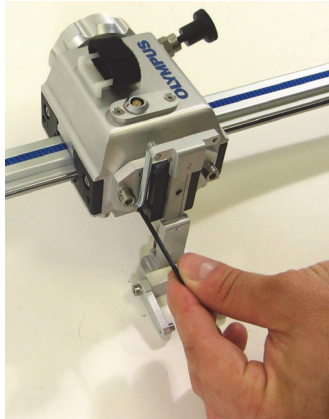

Figure 2-24 Connecting the spring to the mounting bracket
2. Connect the other end of the spring to the mounting bracket, as shown in Figure 2-24 on page 42.